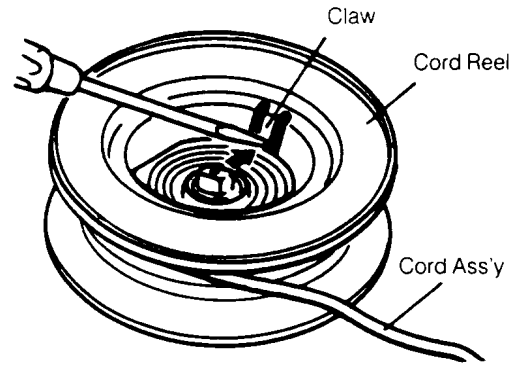

Fig.18
2. Remove the claw of card reel supporting the rail base. (Fig.18)
2. Hook the rail base on the claw of the cord reel and secure it. (Fig.18)